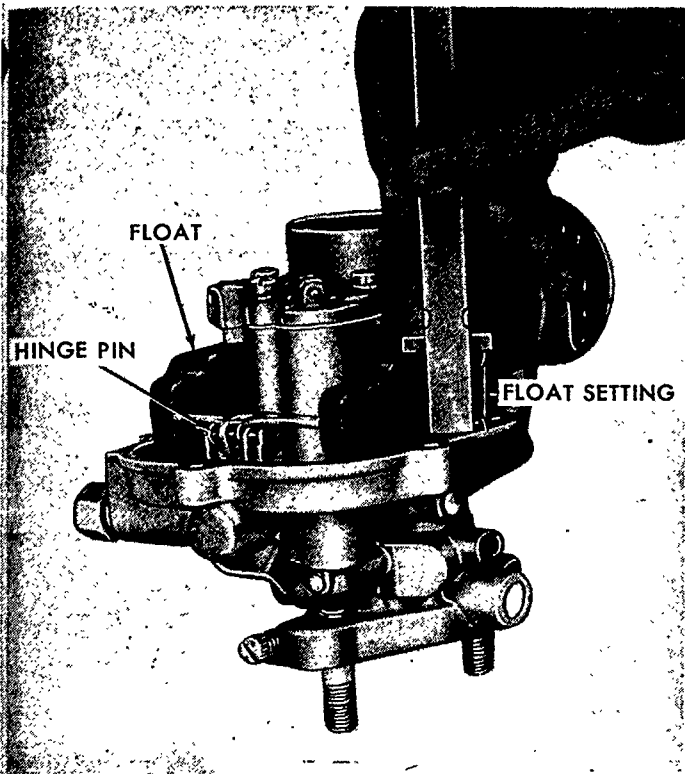

Figure 14
13. Check the float setting as shown in Figure 14. Adjust the float by bending the float lever to contact the inlet needle as specified on page 31.